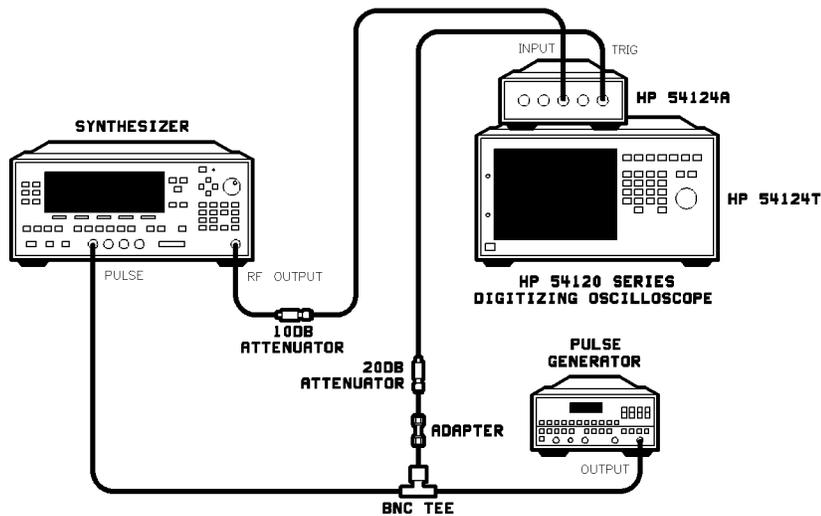

Figure 2-15. Pulse Performance Test Setup
1. Connect the equipment as shown in Figure 2-15. Preset the instruments and let them warm up for at least one hour.